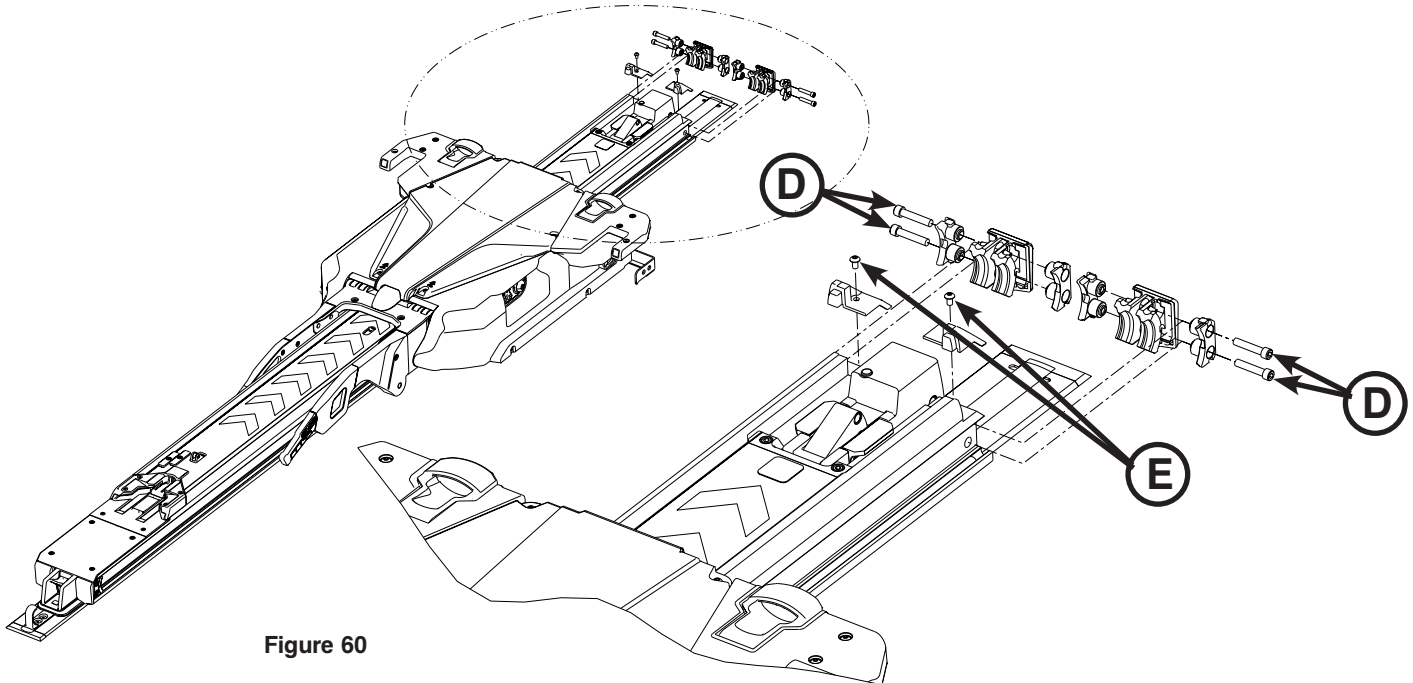

Figure 60
- Using a T25 Torx driver, remove the two screws that secure the transfer trim (E) (Figure 60).
- Using a 3/16" hex wrench, loosen (do not remove) the four socket head cap screws (two on each side) (D) that secure the dead stops to the transfer assembly (Figure 60).